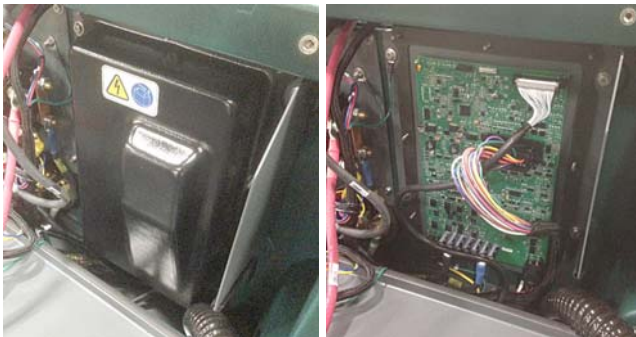

Fig. 2
2. Remove defective circuit board from machine (Figure 2).